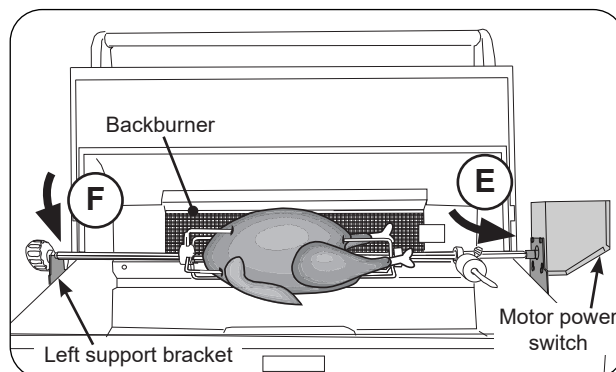

Fig. 31-4 Attach Rotisserie rod to motor
10. Insert the pointed-end of the rod into the motor drive socket (see Fig. 31-4, E). Then rest rod groove (next to the knob) into the left support bracket (see Fig. 31-4, F).